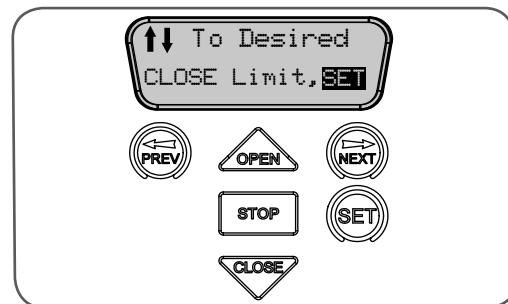

fig 15
- After a short delay the MAIN SCREEN (**Fig. 15**) will be displayed. If this is the first time the GDO-10v2 is being used, the MAIN SCREEN should enter into limit set mode and the blue close LED will be flashing. If the display shows that an input is active, then rectify the situation before continuing with the procedure for setting the travel limits. Press and hold the CLOSE button - the door should start closing.